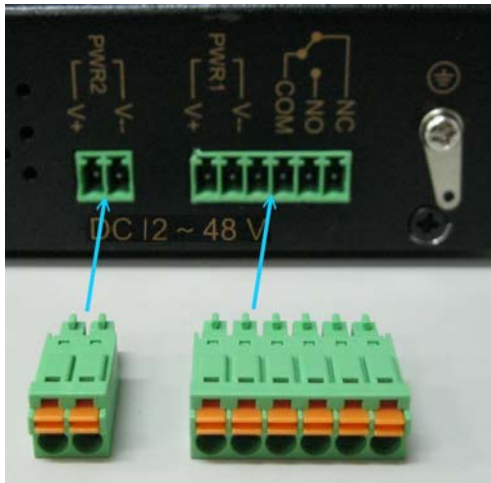

Figure 2-1
- ◆ Take out the “2pin / 6pin terminal block” from inside the accessory kit, and install to the bridge properly. (Figure 2-1)